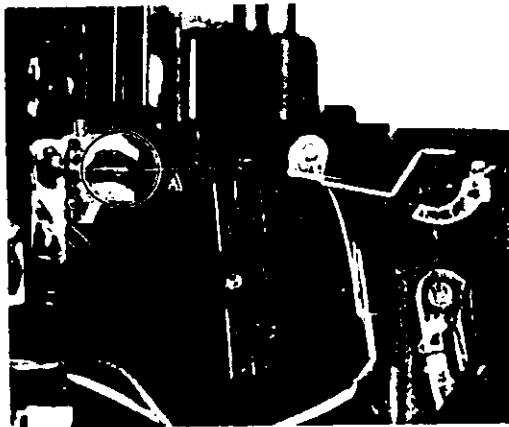

Fig. 22
- 1) When the film wind up lever is set to locking position, power is turned to OFF. (Fig. 22)